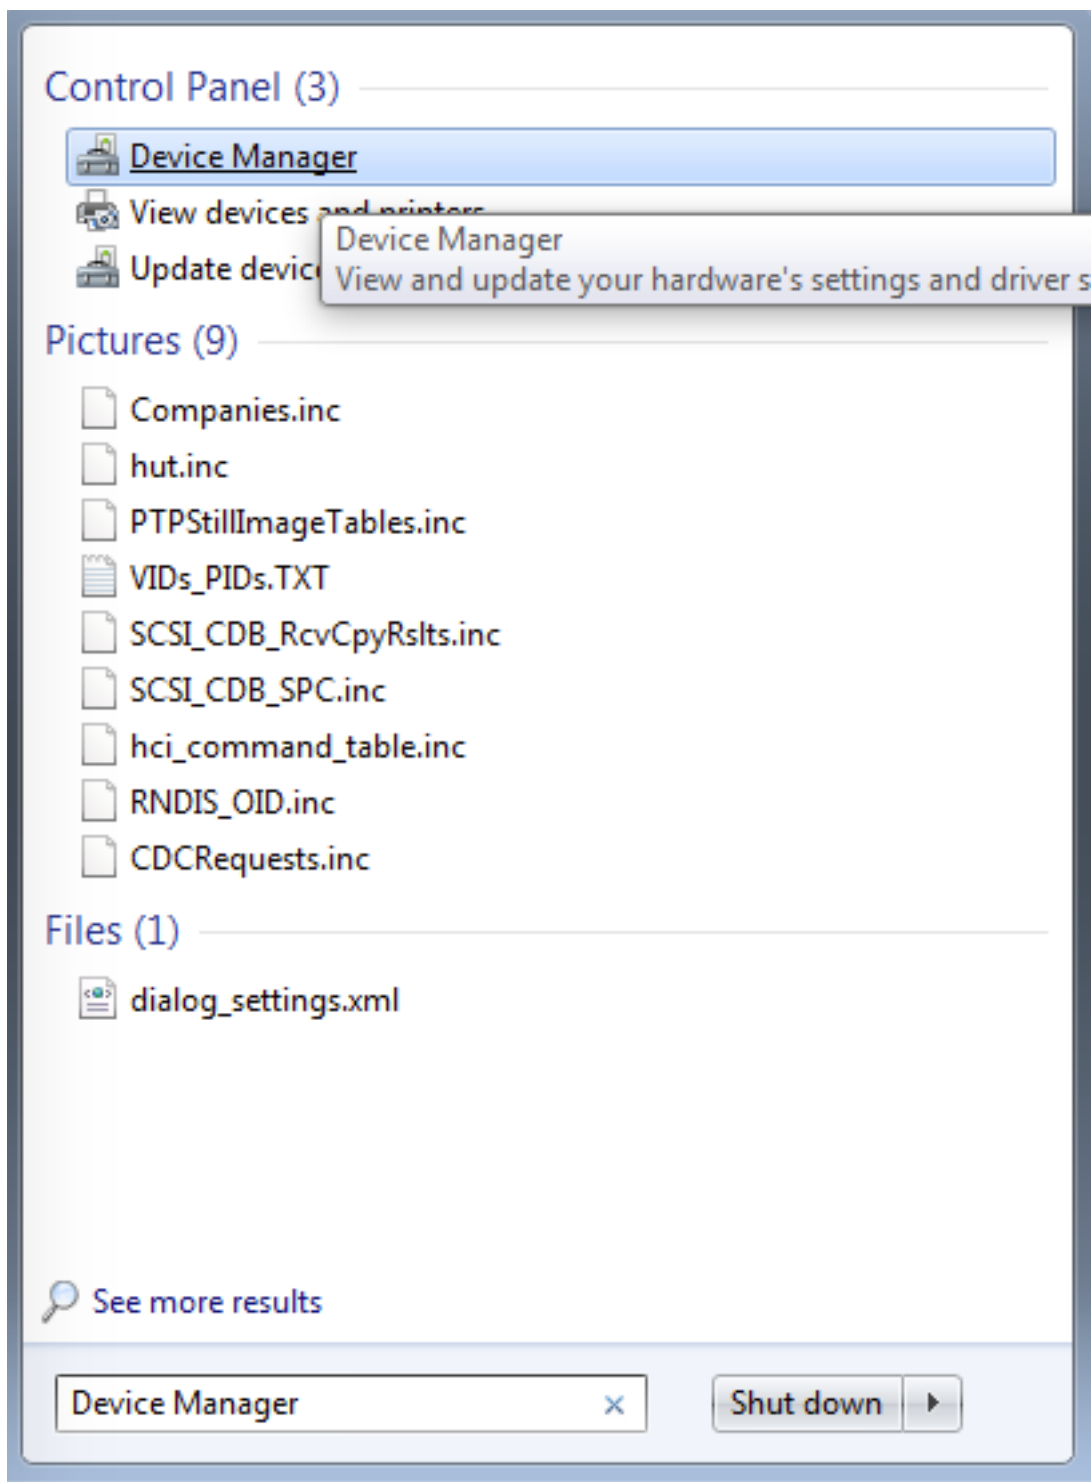

Figure A-1. Device Manager
1. To determine the COM port, open the Windows operating system Device Manager. This can be achieved by going to the Windows operating system Start menu and typing **Device Manager** in the search bar, as shown in Figure A-1.